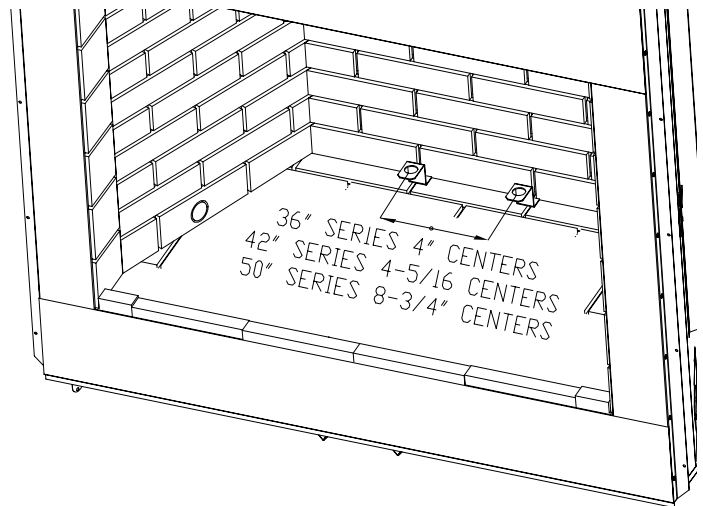

Figure 31 - Installing Grate Retainers
3. Position "Z" shaped grate retaining brackets on top of the notched area toward the rear of the bottom refractory. They should be positioned a distance apart as shown in Figure 31.